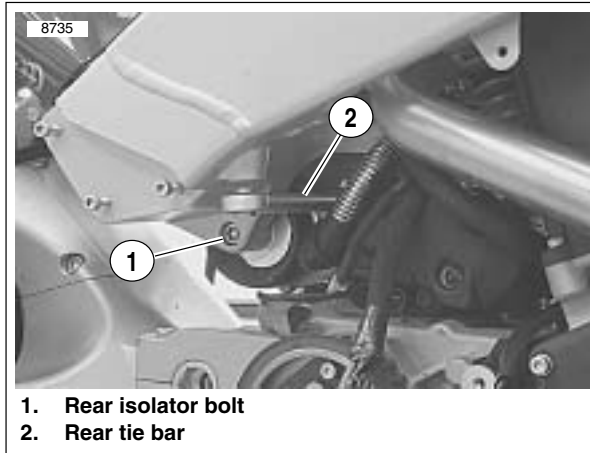

Figure 3-6. Rear Isolator Bolt and Rear Tie Bar (Typical)
20. See Figure 3-6. Remove rear tie bar (2) from frame only.
21. Loosen rear isolator bolt (1). DO NOT REMOVE.